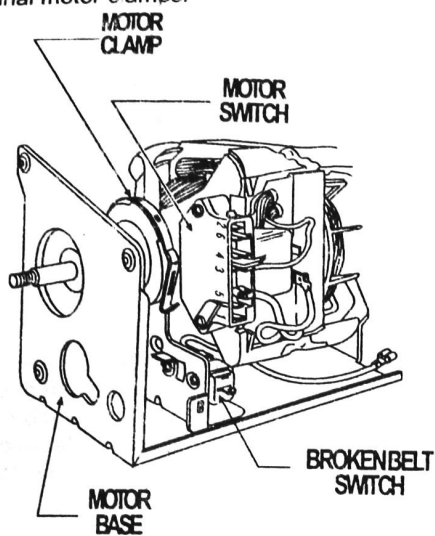

FIGURE 2
3. Position motor as shown in Figure 2. Note the location of the motor switch. Secure motor to bracket with the original motor clamps.